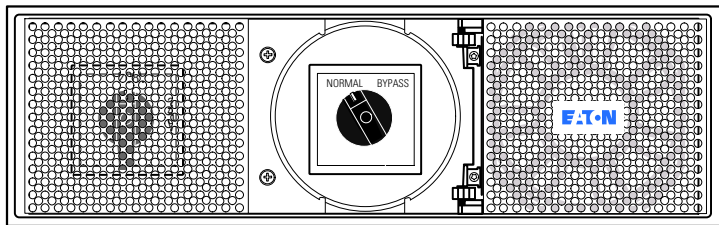

Figure 35. Setting the Bypass Switch to UPS (Normal)
1. If optional Extended Battery Modules (EBMs) are installed, switch the battery circuit breaker on the first EBM rear panel to the On (I) position.
7. Turn the bypass switch on the 9PX PPDM to the UPS (normal) position (see Figure 35).